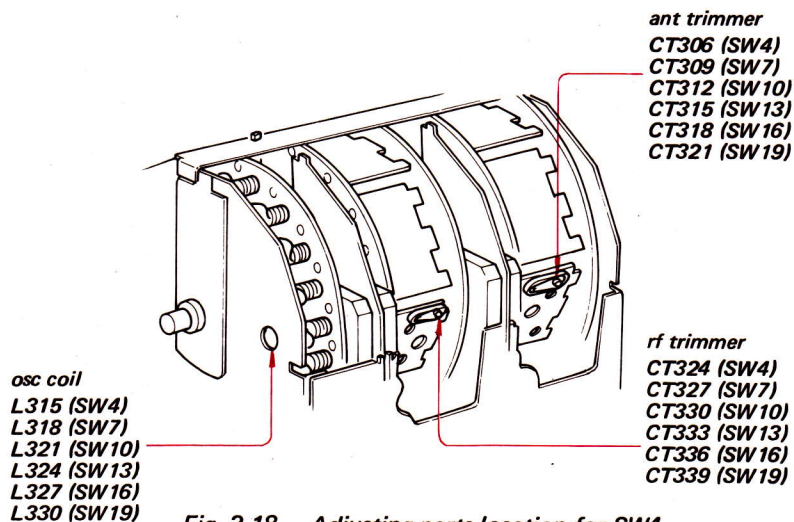

Fig. 3-18 Adjusting parts location for SW4, SW7, SW10, SW13, SW16 and SW19
2. Connect a 2k Ω -carbon resistor to the collector of Q206 as shown in Fig. 3-18 and Fig. 3-19.